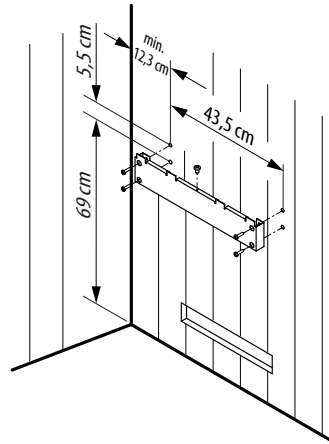

Fig. 3
- Center wall mounting over the air intake vent as in Fig. 3 and bolt onto cabin wall with the particle board screws provided.